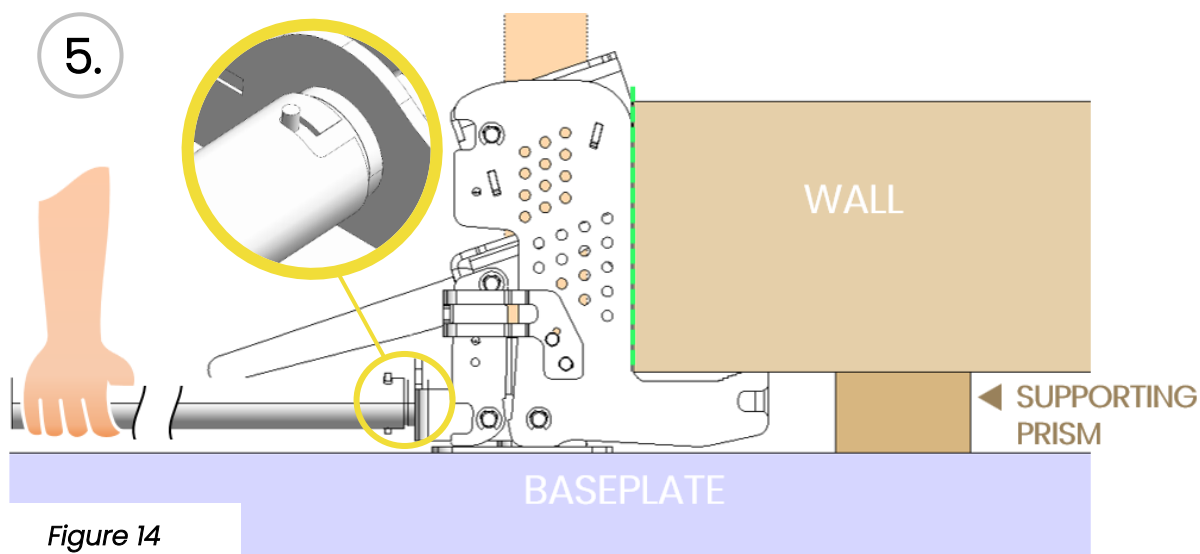

Figure 14
Grab hold of main rod by your hand and check, whether the rod is properly secured (see detail, Figure 14). Now you can pump the Tool by your hand a few times to stiffen the Tool between the heel and the wall. This secures the joist with the Tool against falling and gives you better access to the anchor holes in the foot at the same time.
- Main rod of the lifting Tool is well secured into the locked position (Figure 14).